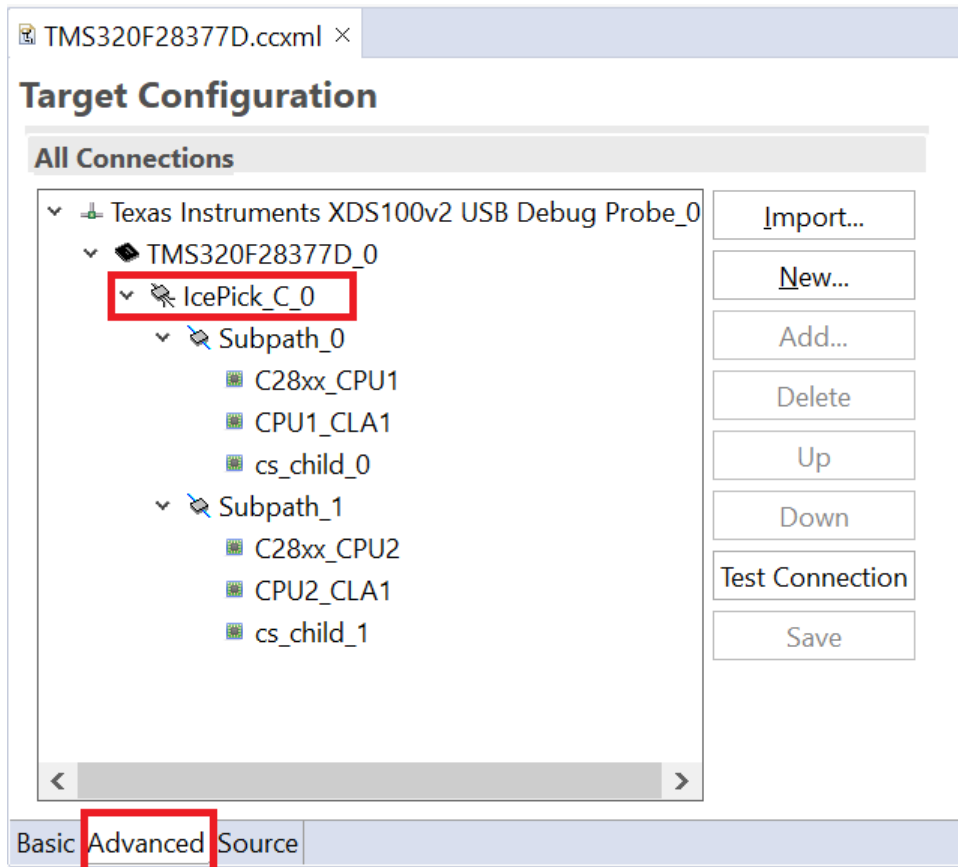

Figure 5-1. Target Config Advanced View
The JTAG standard allows for a single JTAG debug probe to make a daisy-chain connection with multiple devices. In practice, various constraints limit the number of target devices that can be connected in a chain. The XDS-class debuggers all have a limited number of instruction register (IR) bits that the debug probe can circulate before expecting to see the bits returned. Many older C2000 devices require 38 IR bits to be circulated per device, while all newer devices only require six IR bits to be circulated because of the ICEPick JTAG route controller. At the time of writing this application note, the following devices have ICEPicks: F2807x, F28M3x, F2837xD, F2837xS, F28004x, F2838x, F28002x, F28003x, F280013x, F280015x, F28P65x, and F28p55x. To determine if the device has an ICEPick, use Code Composer Studio to look at the *Advanced* tab of the target configuration, as shown in Figure 5-1.